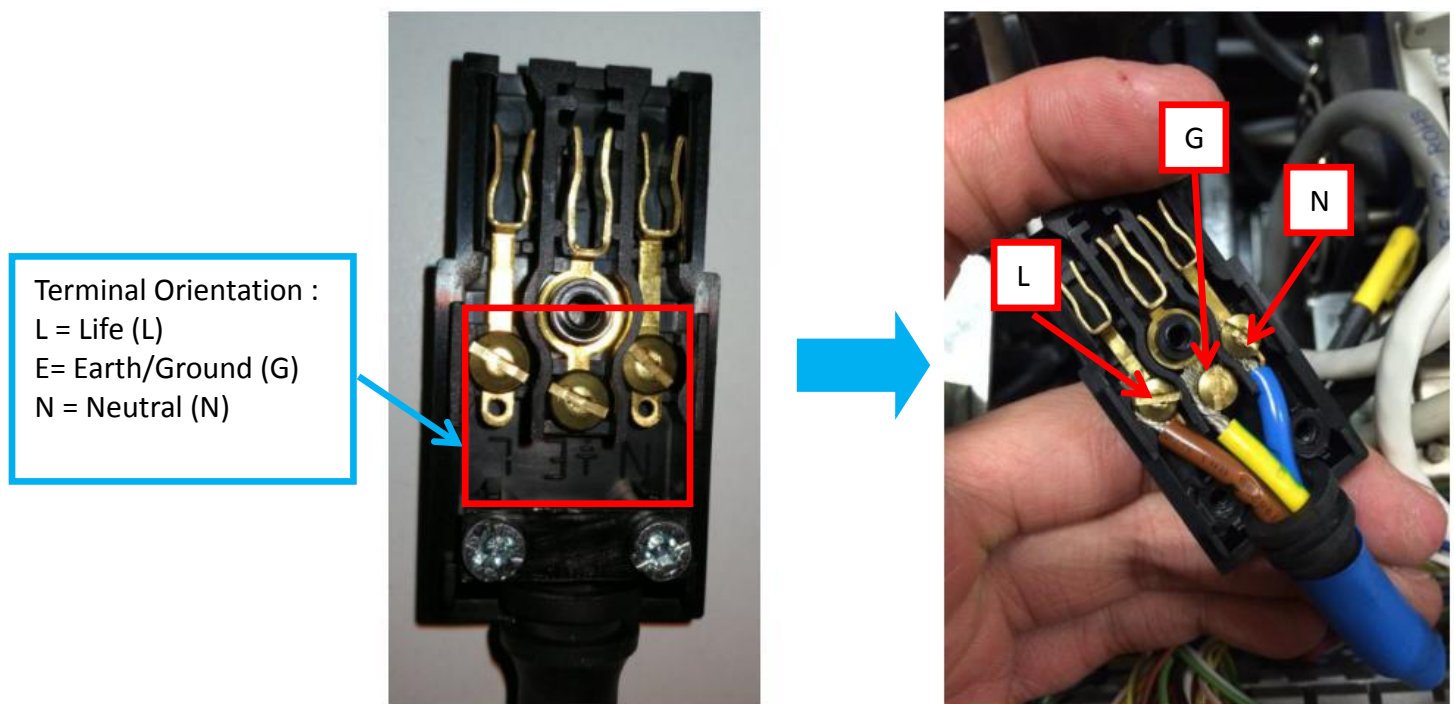

Figure 20
25. Identify the terminal for Life(L), Ground(G) & Neutral & assemble all three cables into respective screw terminals. May refer to below Figure 20.